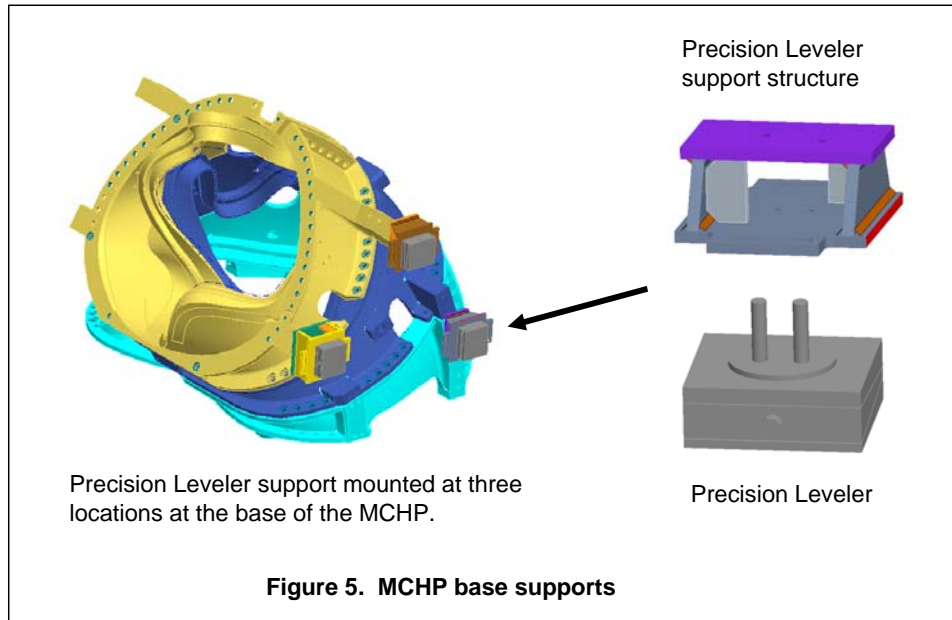

Figure 4. Measurement of MCHP feet
11.03	Scan the "B" flange of Type-C coil as well as the interfacing base support feet (see Figure 4). Record the results.